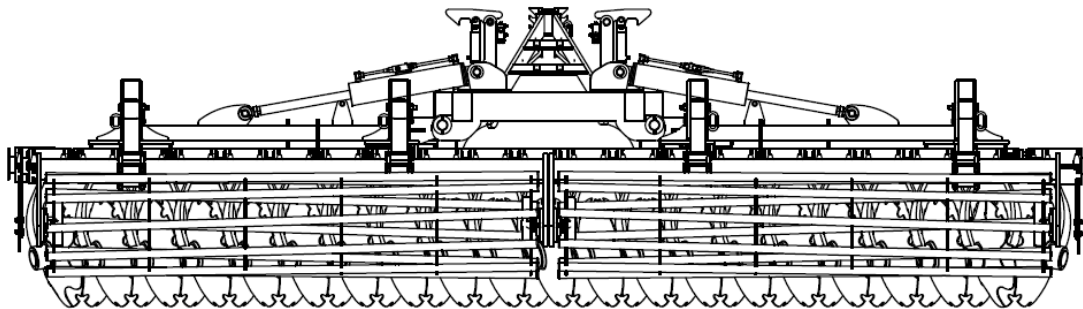

Fig. 11 View of the implement at the completion of the side extension opening sequence. The implement arms are fully open.
5. To complete the opening sequence of the implement side extensions, wait until the hydraulic mechanism opens the arms to their end position. Do not interrupt the opening process of the arm side extensions without ensuring that they are fully open (Fig. 11).